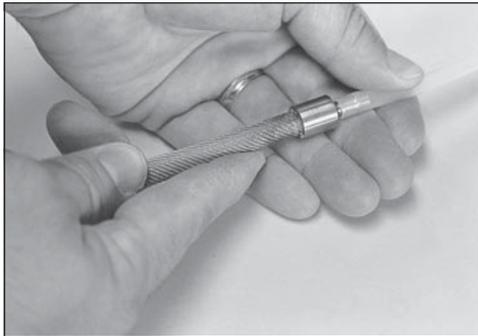

Figure 1. Attaching tubing to the sampling implant.
2. Attach appropriate tubing to the implant (**Figure 1**). If tubing is pre-cut, allow it to be approximately 48 in. (1219 mm) longer than the required depth of the implant. Cover or plug the open end of the tubing.